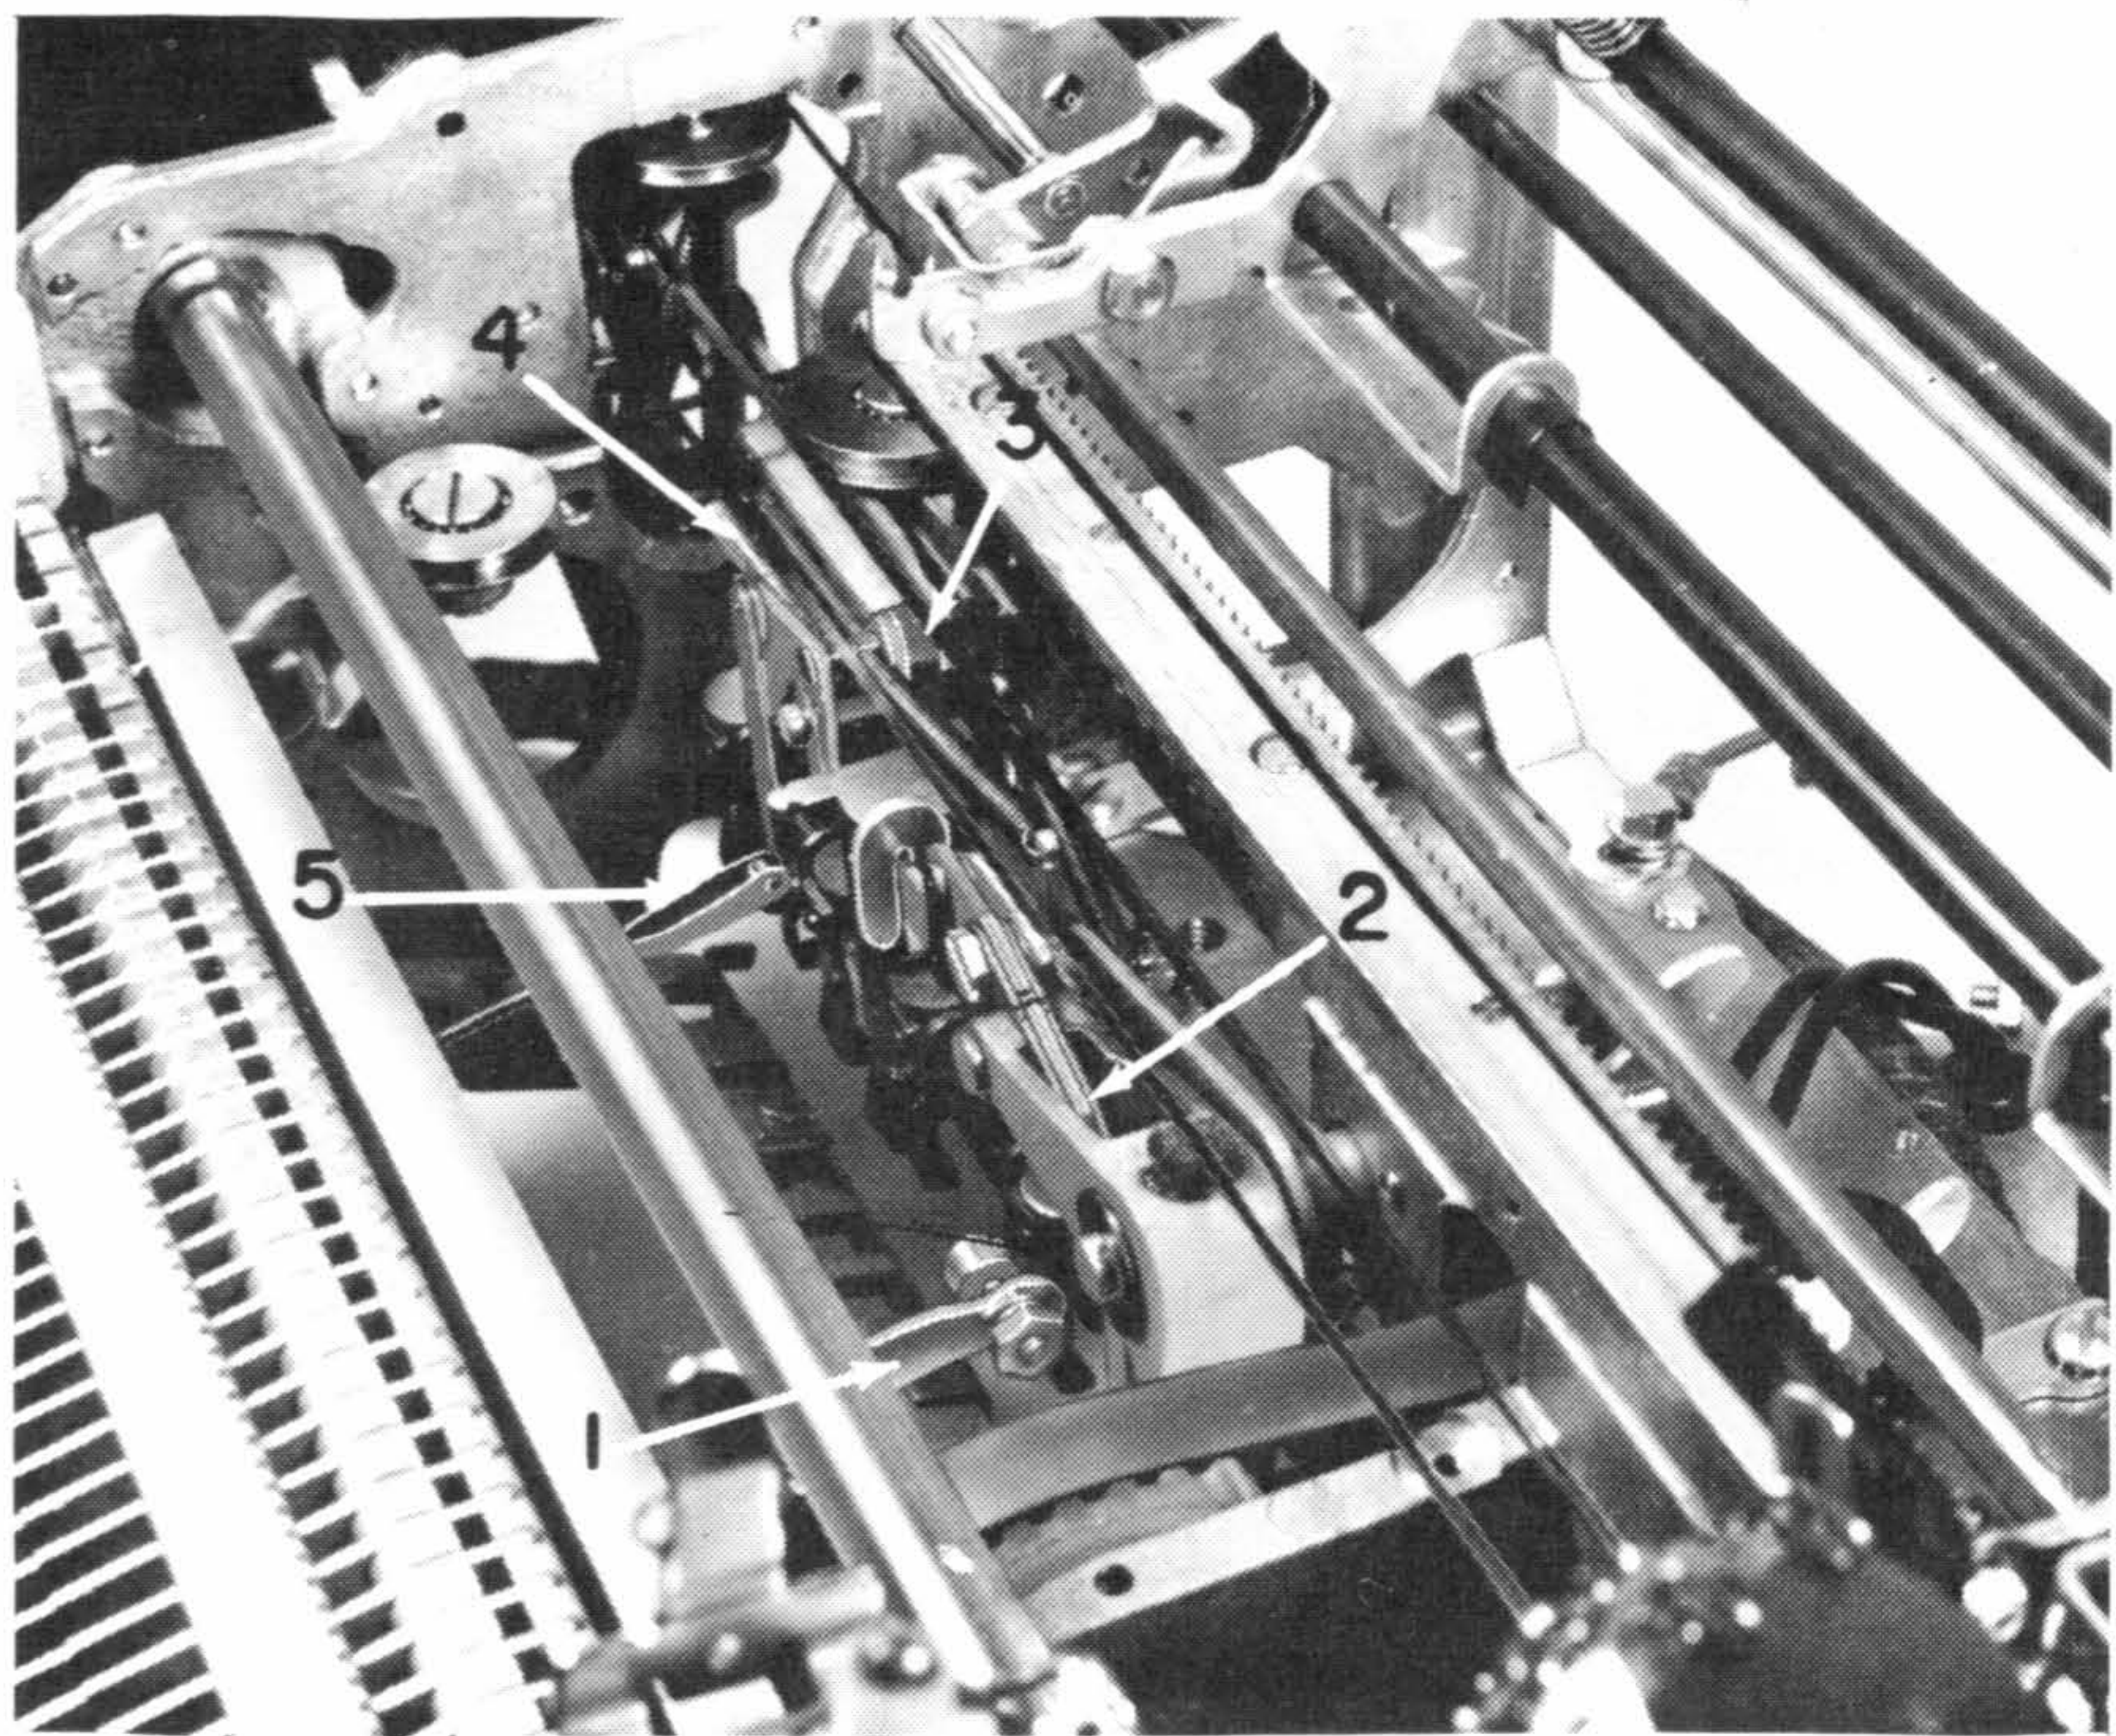

Figure 32. Differential Plate Removal
17. Remove the cycle-clutch latch bracket (#1, Figure 32).
18. Remove the C-clip from the negative latch link (#2, Figure 32).
19. Remove the C-clip from the tilt-link stud (#3, Figure 32).
20. Remove the rotate-arm spring (#4, Figure 32).
21. Detach the check-latch clevis (#5, Figure 32).